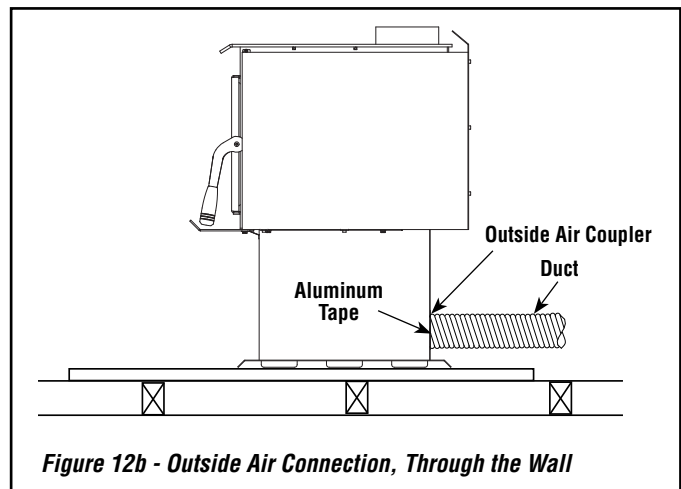

Figure 12b - Outside Air Connection, Through the Wall
- b) The air intake register must not be installed more than ten (10) feet above the base of the stove.
- Make a 4-1/4" hole in the outside wall of the house at the chosen location. From outside, place the outside air register in the hole (open side down) and fasten the register to the wall, with screws as shown (*see Figures 12b and 13*).